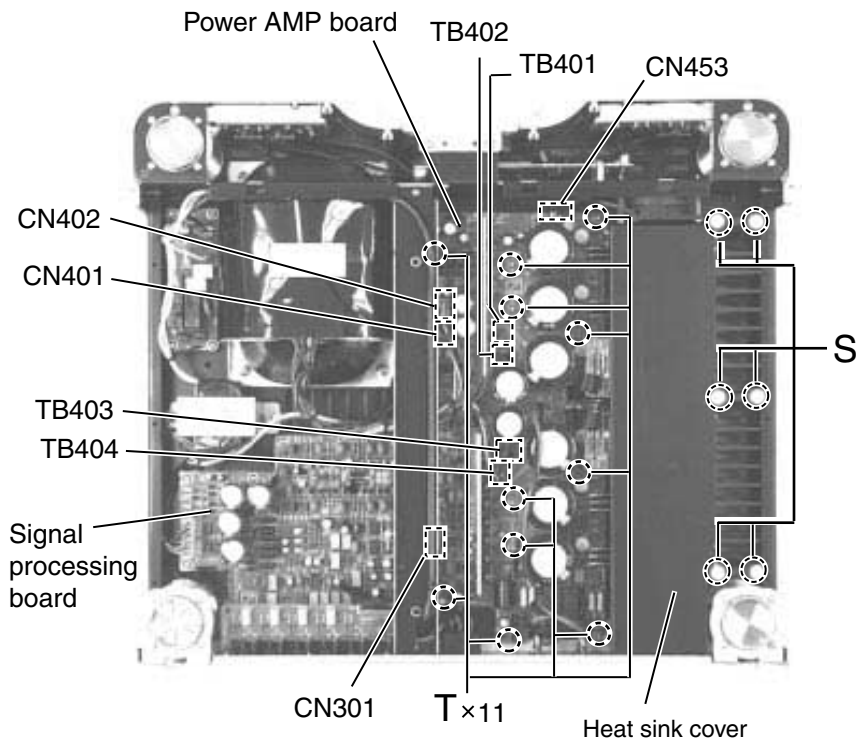

Fig.13
■ **Removing the power AMP board assembly / heat sink (See Fig. 13 to 15)**
7. After removing each screw U attaching the power AMP sub-board assembly (1) & (2), take off the power AMP sub-board assembly from the heat sink.